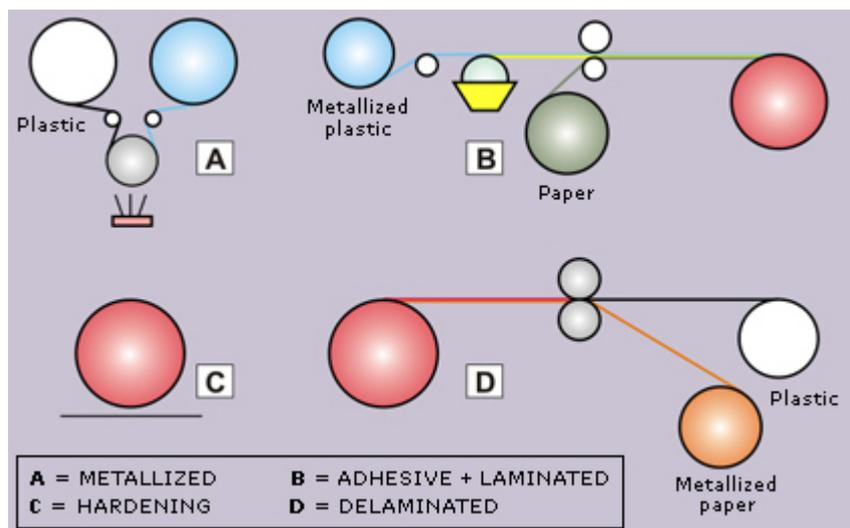

Fig. 2: Diagram of transfer metallization.
- **Transfer metallization.** This consists of high vacuum metallization of a plastic (usually polyester) for subsequent transferral to the paper. As figure 2 shows, this process can be divided into four stages: